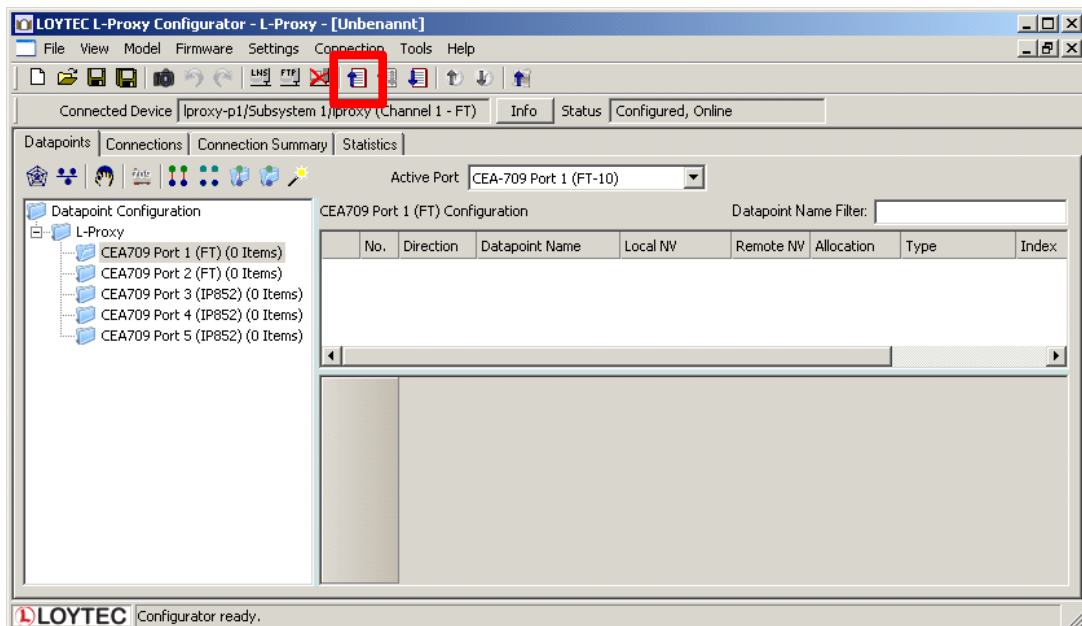

Figure 2: L-Proxy Configurator plug-in main screen.
3. This opens the data point manager screen of the software as shown in Figure 2. Note that the device status is displayed as “Configured” on the right-hand side below the speed button bar.
4. Click on the **Upload Configuration** speed button as marked by the red rectangle in Figure 2.